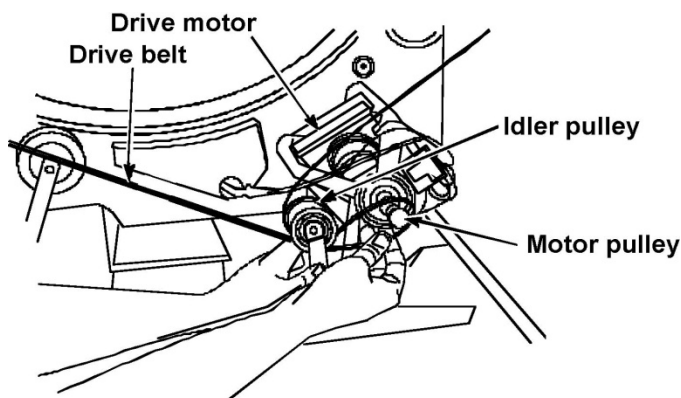

FIGURE 2
9. Remove drum belt by lifting idler pulley upward and sliding belt off of motor pulley. Remove drum from cabinet. See *Figure 2*.